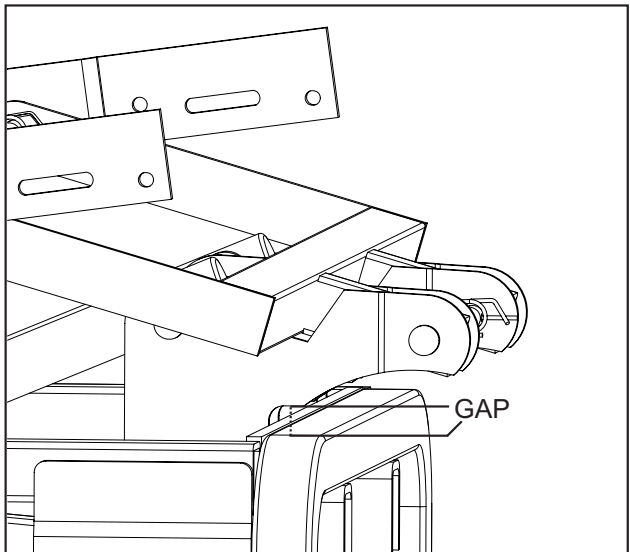

Figure 6. Gap Between Bracket and Lift Frame
7. Maintain a gap of 3/16 inch (.48 cm) to 1/4 inch (.64 cm) between the lift/recline bracket and the lift frame. This will allow the footrest to close properly. See figure 6.